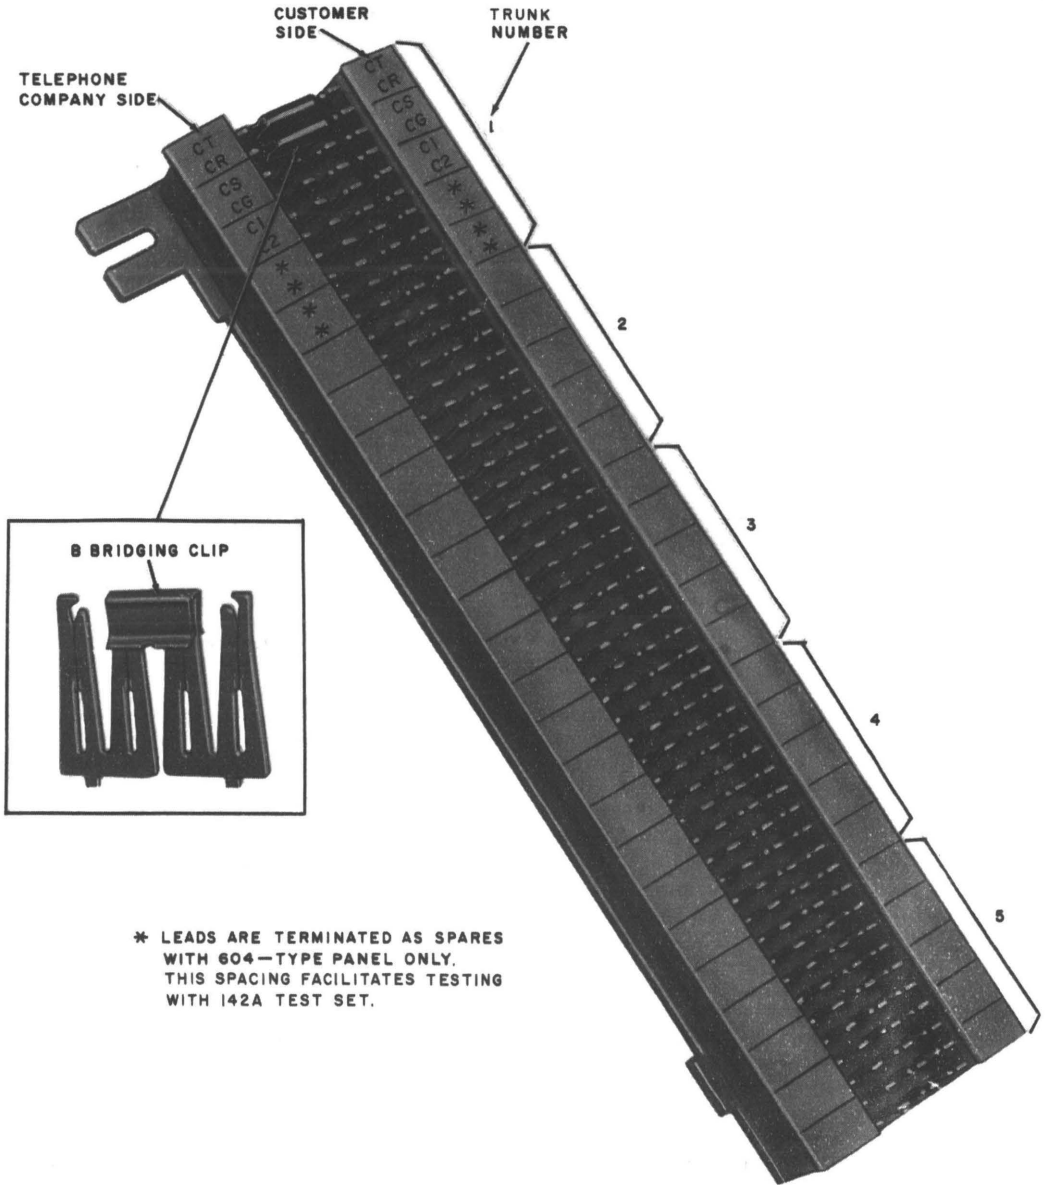

Fig. 4—66M1-50 Interface Connecting Block For Use With 604-Type Panel
- Block, Connecting, 66M1-50 (as required, Fig. 4)
- Clip, Bridging, B (as required, Fig. 4)
the telephone company side on 66M1-50 interface connecting blocks following the wiring plan shown in Fig. 4 and Tables B, C, D, E, and F. (Stencil lead designations on fanning strip, Fig. 4.)
6.02 For connection information using the 604A-type panel, refer to Fig. 4, 7, and Tables B, C, D, E, F, and I.
6.03 For connection information using the 604B/604C panels, refer to Fig. 4, 7, and Tables B, C, D, E, and I.